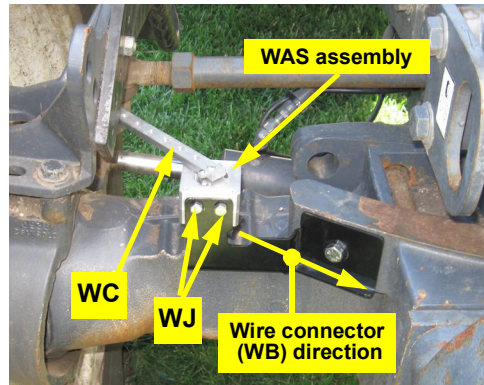

Figure 2c: Installed WAS assembly
c. Using hardware **WJ** attach the WAS assembly to mounting bracket **WK**. Mount the assembly with the connector arm **WC** uppermost and the wire connector **WB** facing the left front of the machine (Figure 2c).